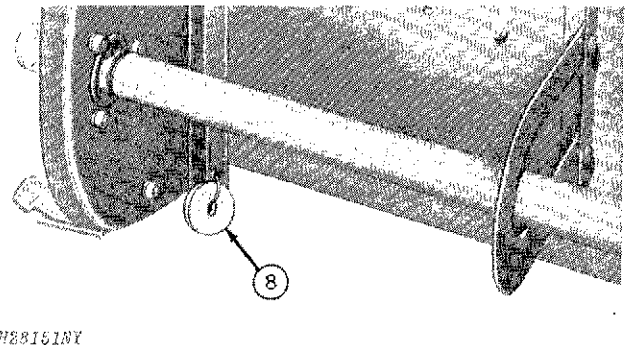

Fig. 52-Platform-to-Feeder House Washers
8. Remove the 21/32 x 2 x .250-inch flat washers wired to the lower rear part of the platform (Fig. 52). These washers are used with the 5/8 x 1-1/2-inch cap screws, required to secure the platform to the feeder house.